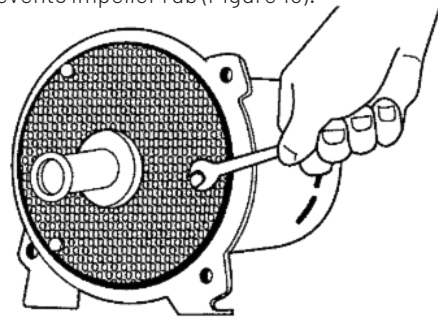

Figure 15: Remove Diffuser
3. Remove the 3 cap screws holding the diffuser to the seal plate and remove the diffuser. When replacing the diffuser, use three .010" thick shims equally spaced between the impeller eye and diffuser opening. This centers the diffuser and prevents impeller rub (Figure 15).